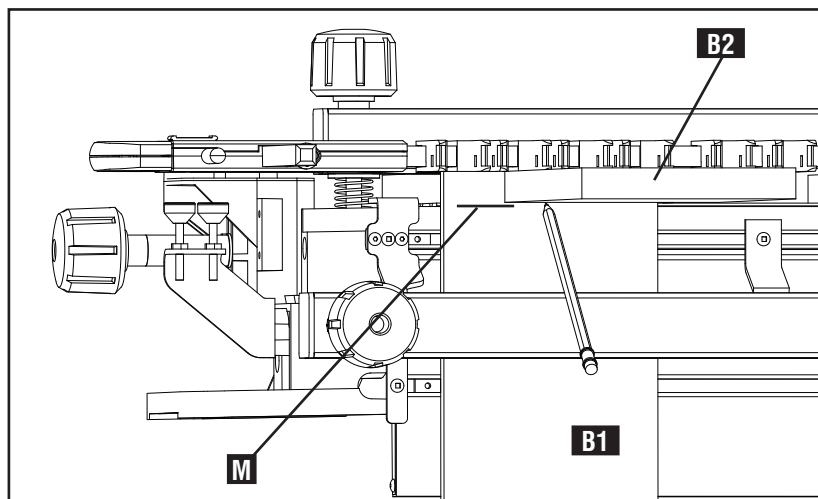

Fig. I9
- 6 Your router bit depth should match the thickness of the second board you are cutting, or B2 (Fig. I9). This is the board that will be joined with the first board, B1.
7. To set router bit depth, mark a line (M) Fig. I9 on B1 using the thickness of B2, as shown.
8. Place router on template and set router bit depth to this line (M).